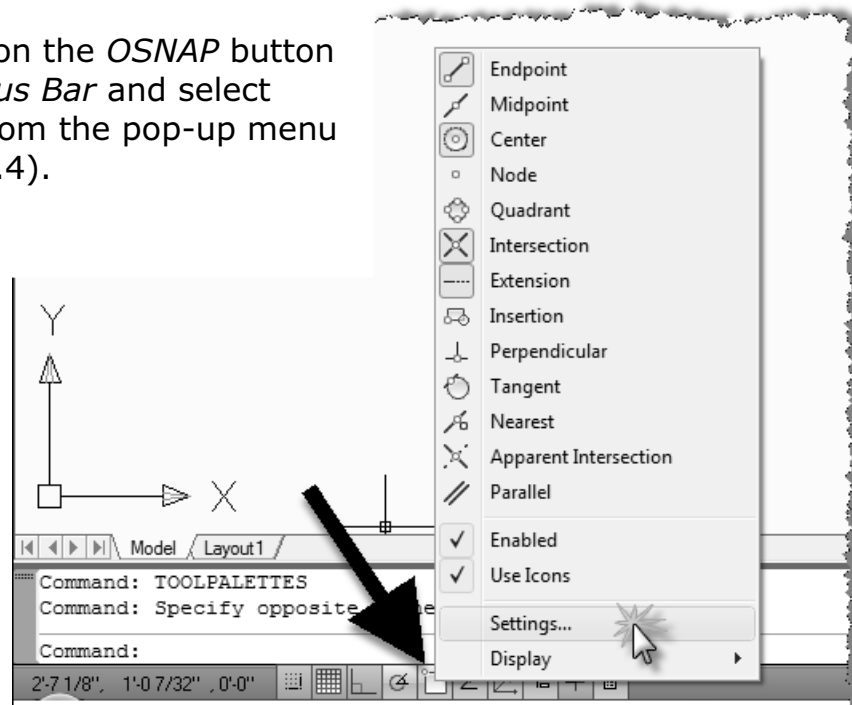

Figure 2-2.4 Right-click on the OSNAP button located on the *Status Bar*
3. Right-click on the *OSNAP* button on the *Status Bar* and select **Settings** from the pop-up menu (Figure 2-2.4).